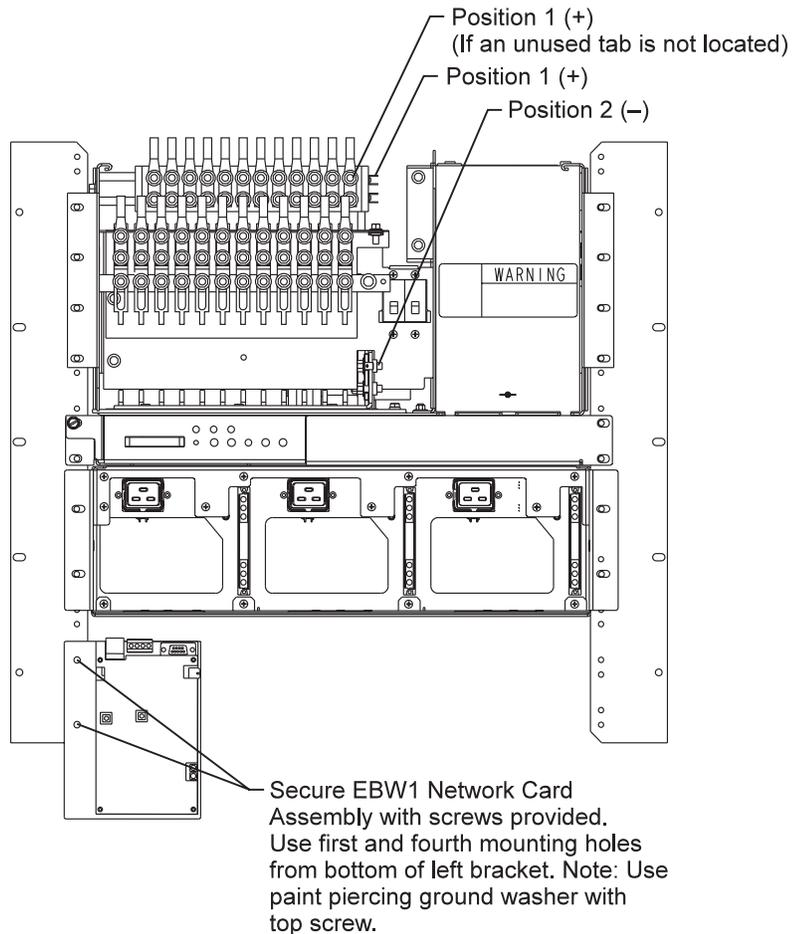

Figure 7-1: Galaxy Gateway Installation in EPS 4802B Battery Plant
1. Refer to Figure 7-1.
1. Secure EBW1 network card assembly as shown in Figure 7-1, using the screws provided. **Note:** Use the paint-piercing ground washer provided on the upper hole to assure a proper ground.
6. Route the red wire (+) of the power cable upward along the right side of the distribution to Position 1 (see Figure 7-1). Anchor it with tie wrap provided. Do not connect the wire to the distribution at this time.
1. Carefully connect the -48 volt power cable to distribution as follows: Slide the red (+) wire on tab at position 1 (see Figure 7-1). Then slide the black (-) wire on tab at position 2.